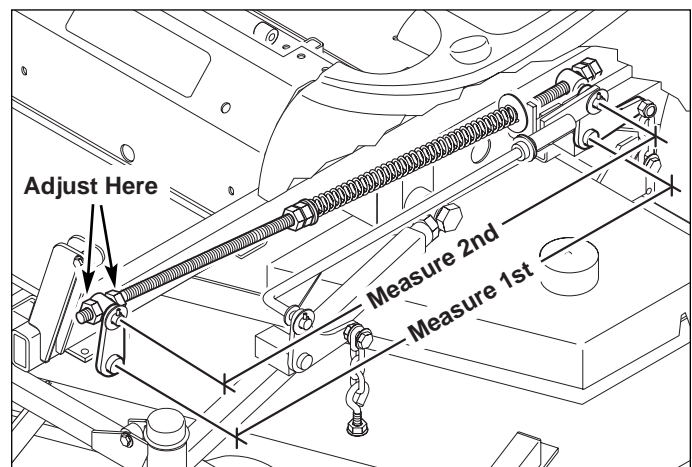

Figure 45. Spring Rod Adjustment
4. See Figure 45. Measure the distance between the lift pivots and the spring rod pivots. Adjust the 5/8" hex nuts on either side of the front spring rod pivot until the measurements are equal.